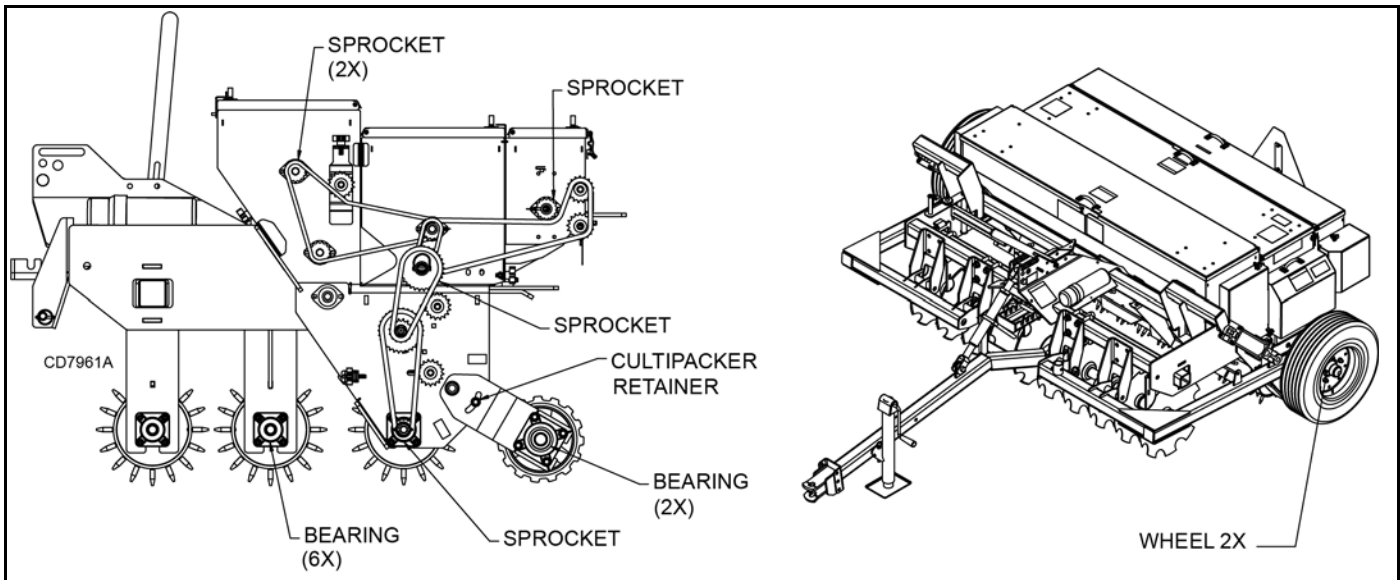

Figure 33. Lubrication Points
- ___ Check all lubrication points and grease as instructed in Lubrication Information, Figure 33.
1. Lubricate all bearing housings every 8 hours. Bearing housings are located on each end of rollers as indicated by grease fitting. See Figure 33.